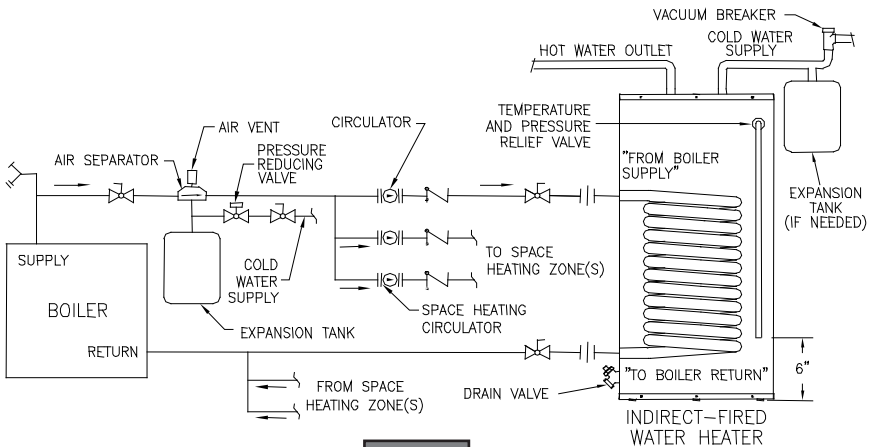

Fig. 3
2. For a space heating system that utilizes CIRCULATORS, refer to Figure 3. The indirect-fired water heater connection labeled “FROM BOILER SUPPLY” should be piped to the boiler supply piping. Mount the circulator making sure the flow arrow points toward the water heater. The use of shut-off valves and unions are recommended for future service convenience. The use of an air separator and vent is recommended to eliminate air in the system. Pipe and fittings between the boiler and indirect-fired water heater must be $\frac{3}{4}$ " (19 mm) diameter or larger.